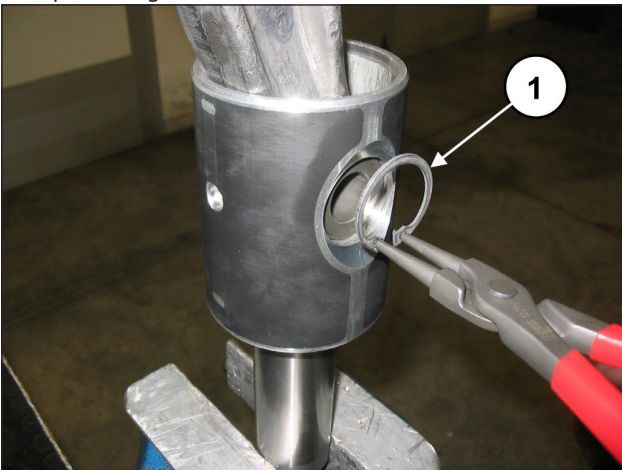
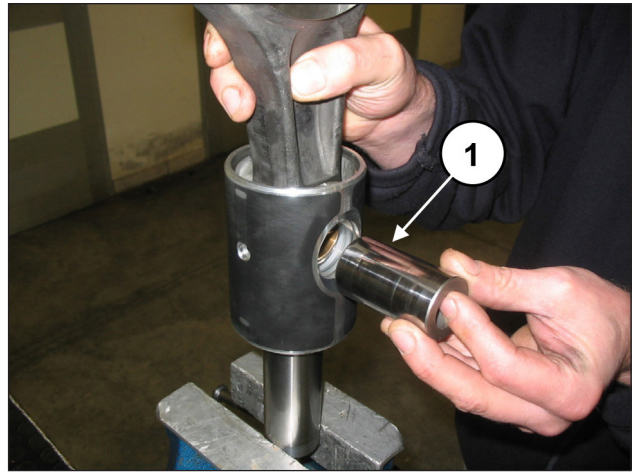
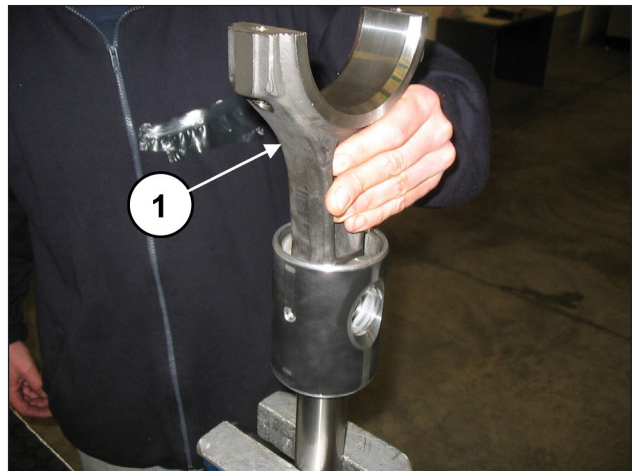

Fig. 34
Fig. 35
Fig. 36
Remove the two spindle locking Seeger rings using a special tool (pos. ①, Fig. 34).
Remove the spindle (pos. ①, Fig. 35) and extract the con-rod (pos. ①, Fig. 36).
Insert the con-rod in the piston guide (pos. ①, Fig. 36) and then insert the spindle (pos. ①, Fig. 35). Fit on the two Seeger rings with the special tool (pos. ①, Fig. 34).